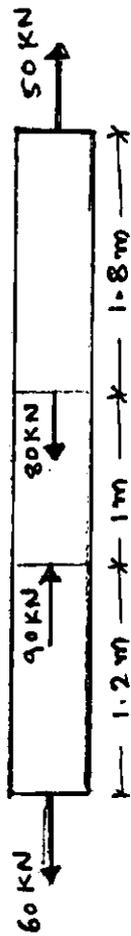

FIGURE : 1
- (b) Find change in length for specimen shown in fig.1. also draw free body diagram . If $E = 2 \times 10^5 \text{ N/mm}^2$ and diameter of bar is 25 mm. **07**